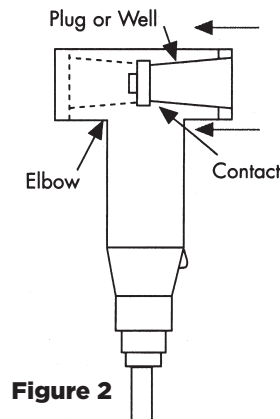

Figure 2
- Hand tighten to prevent cross-threading. (Figure 2)